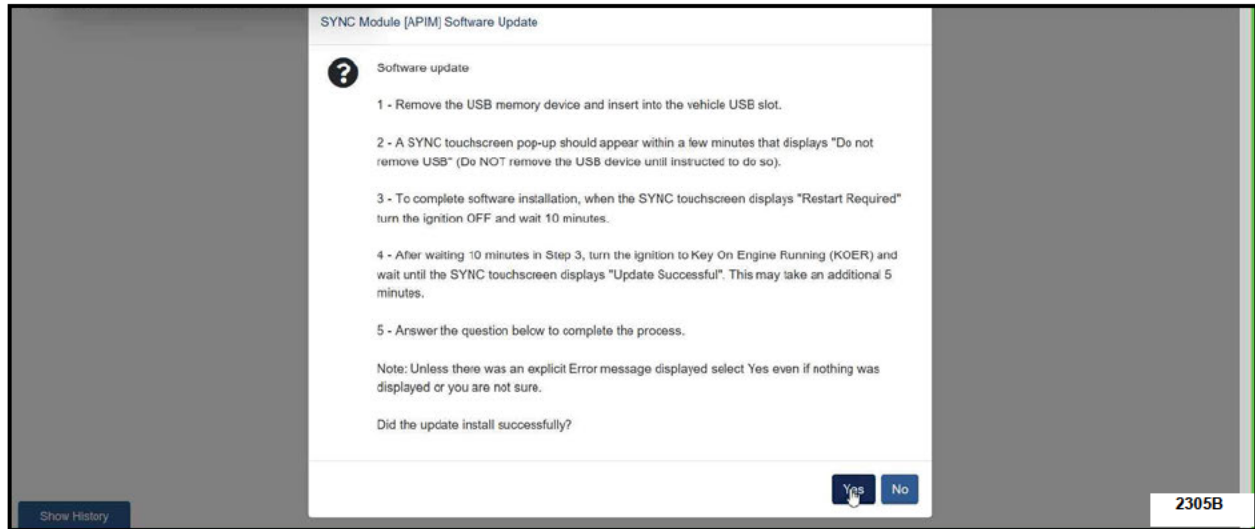

FIGURE 2
25. Continue to follow all on-screen instructions carefully until the following screen is reached. See Figure 2.
- b. Wait ten (10) minutes.
27. After 10 minutes continue with the remaining steps shown in Figure 2.